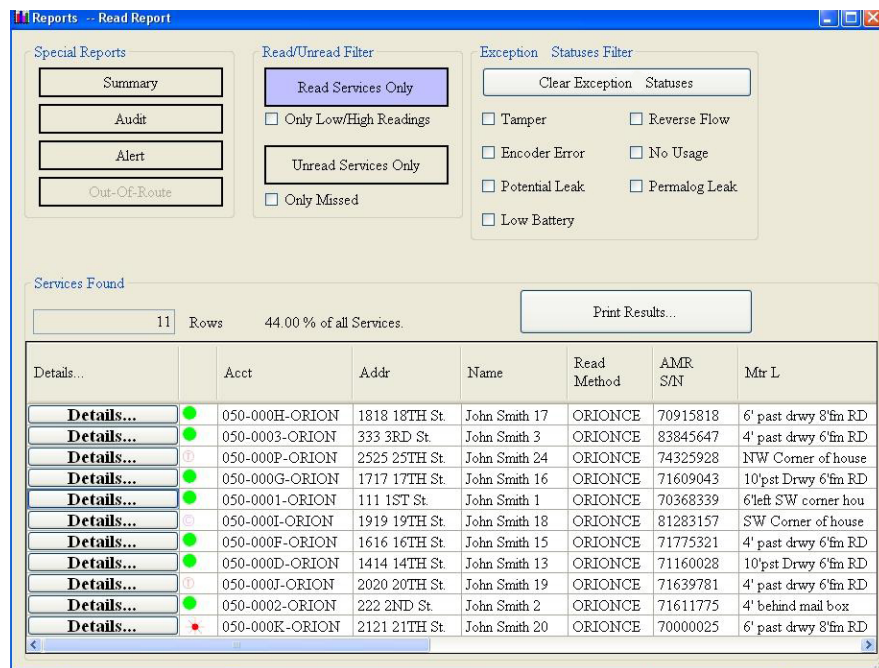

Figure 53: Reports - Read Services Only
- Reports are designed for viewing in the field but you may connect a printer to the laptop and print a report by selecting the **Print Results** button. An example is shown in *Figure 53*.